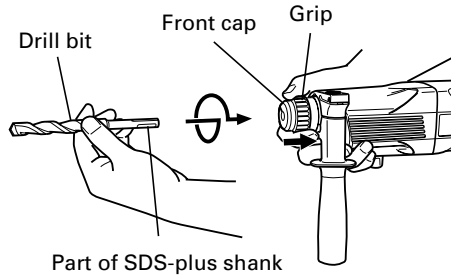

Fig. 2
## 6. Mounting the drill bit (Fig. 2)
- (1) To attach a drill bit (SDS-plus shank), fully pull the grip in the direction of the arrow as shown in Fig. 2 and insert the drill bit as far as it will go while manually turning.
- (2) By releasing the grip, the drill bit will be secured.
- (3) To remove the drill bit, fully pull the grip in the direction of the arrow and pull out the drill bit.